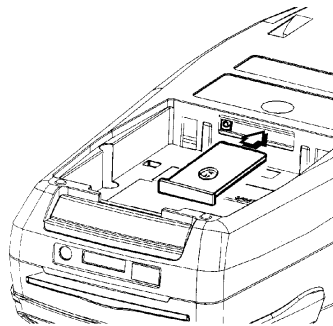

Figure 20 SIM Cardholder Insertion
7. Insert the SIM cardholder fully into the TEL SIM slot, as displayed in Figure 20 **SIM Cardholder Insertion.**